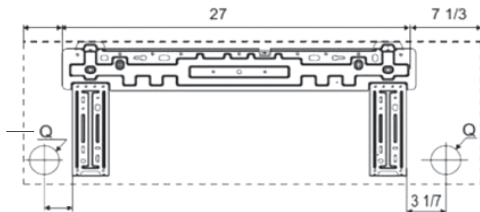

Fig. 6 - 09 and 12K Mounting Plate Spacing
2. The mounting plate should be located horizontally and level on the wall. All minimum spacings shown in Fig. 6.